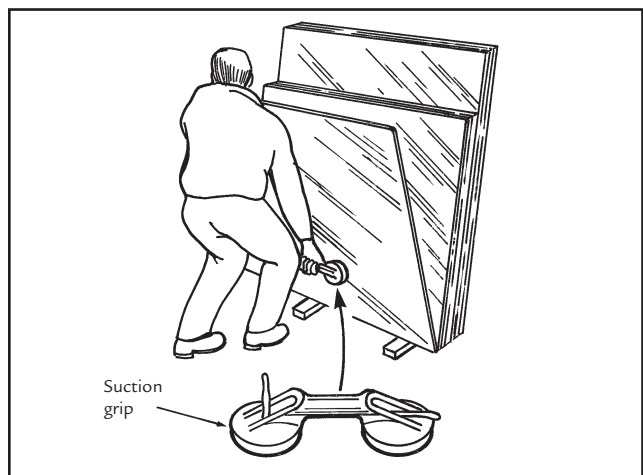

Figure 1.19 Suction grip for lifting
- **Lifting grips**—used to allow safe lifting and carrying of awkward materials, e.g. suction grips for handling glass, carry grips for lifting and carrying sheet material (Figures 1.19 and 1.20).